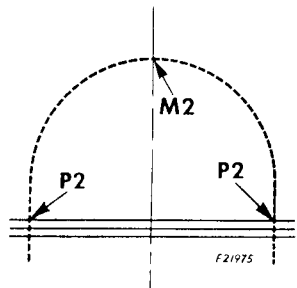

Fig. 82. Correct Path of Needle Pendulum Movement
2. The needle should reach the peak **M2**, **Fig. 82**, of its ascent, midway between the two extreme positions **P2**, **Fig. 82** of the needle.
lever fork **J2**, reaches the opposite end of its swing, the pendulum movement should be completed, as shown in **Fig. 82**.
4. The needle should begin and end its pendulum movement at the same height above the throat plate, as shown in **Fig. 82**.